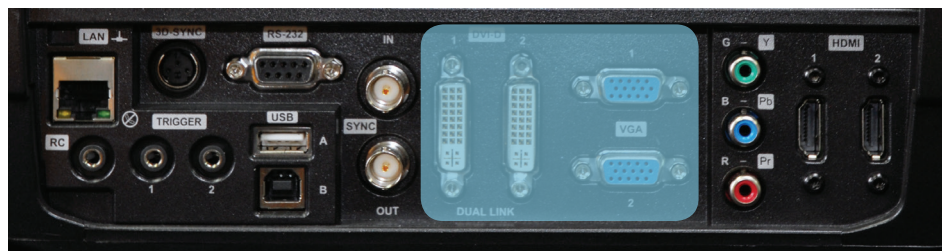

Figure 5-5. Connecting a computer source
The projector may be connected to up to six computer sources simultaneously, using the HDMI (O), DVI-D (J) or VGA (K) interfaces, shown in Figure 5-4/Figure 5-5. The digital interfaces (DVI/HDMI) will yield a projected image with very low noise.